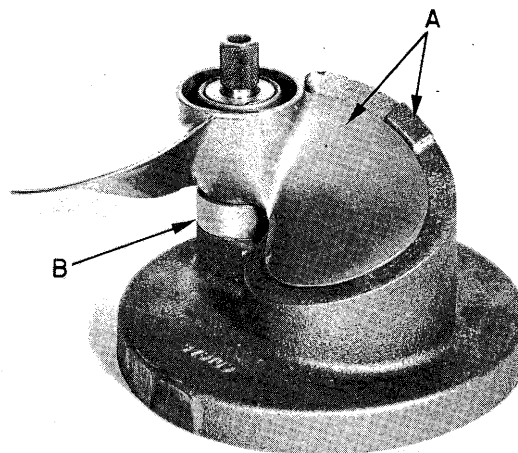

Figure 1.
1. Install propeller on fixture as shown Fig. 1. Make sure propeller hub seats at base of spindle (B) and that leading edge of the propeller blade rests firmly against guide as indicated by arrows "A." Any variation or "off pitch" will be in evidence where blade area does not conform to pitch face. (An adapter or bushing is used to locate the propeller on some fixtures—do not fail to insert where provided.)